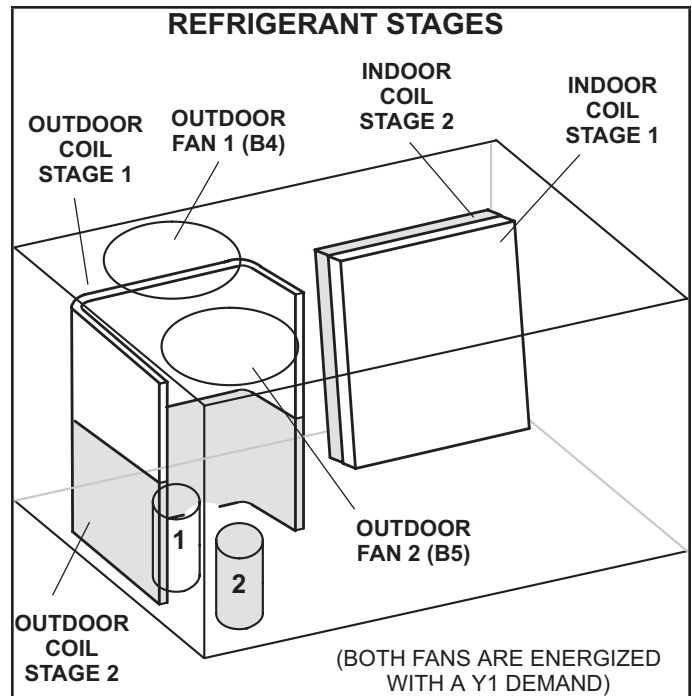

FIGURE 10
- 3 - Units contain two refrigerant circuits or stages. See FIGURE 10.